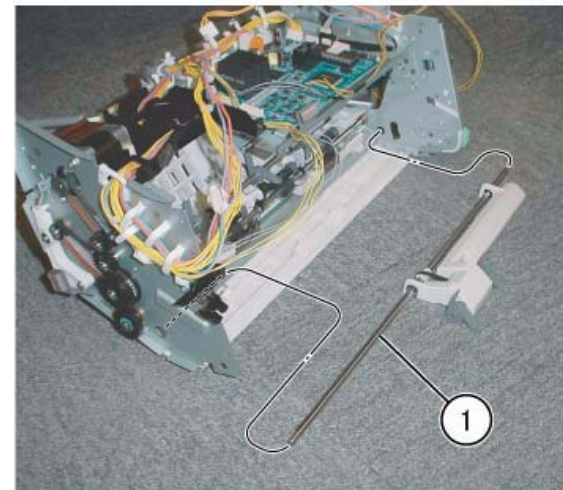

Figure 5 Removing the Paddle Link Assembly
8. Remove the Paddle Link Assembly (Figure 5):